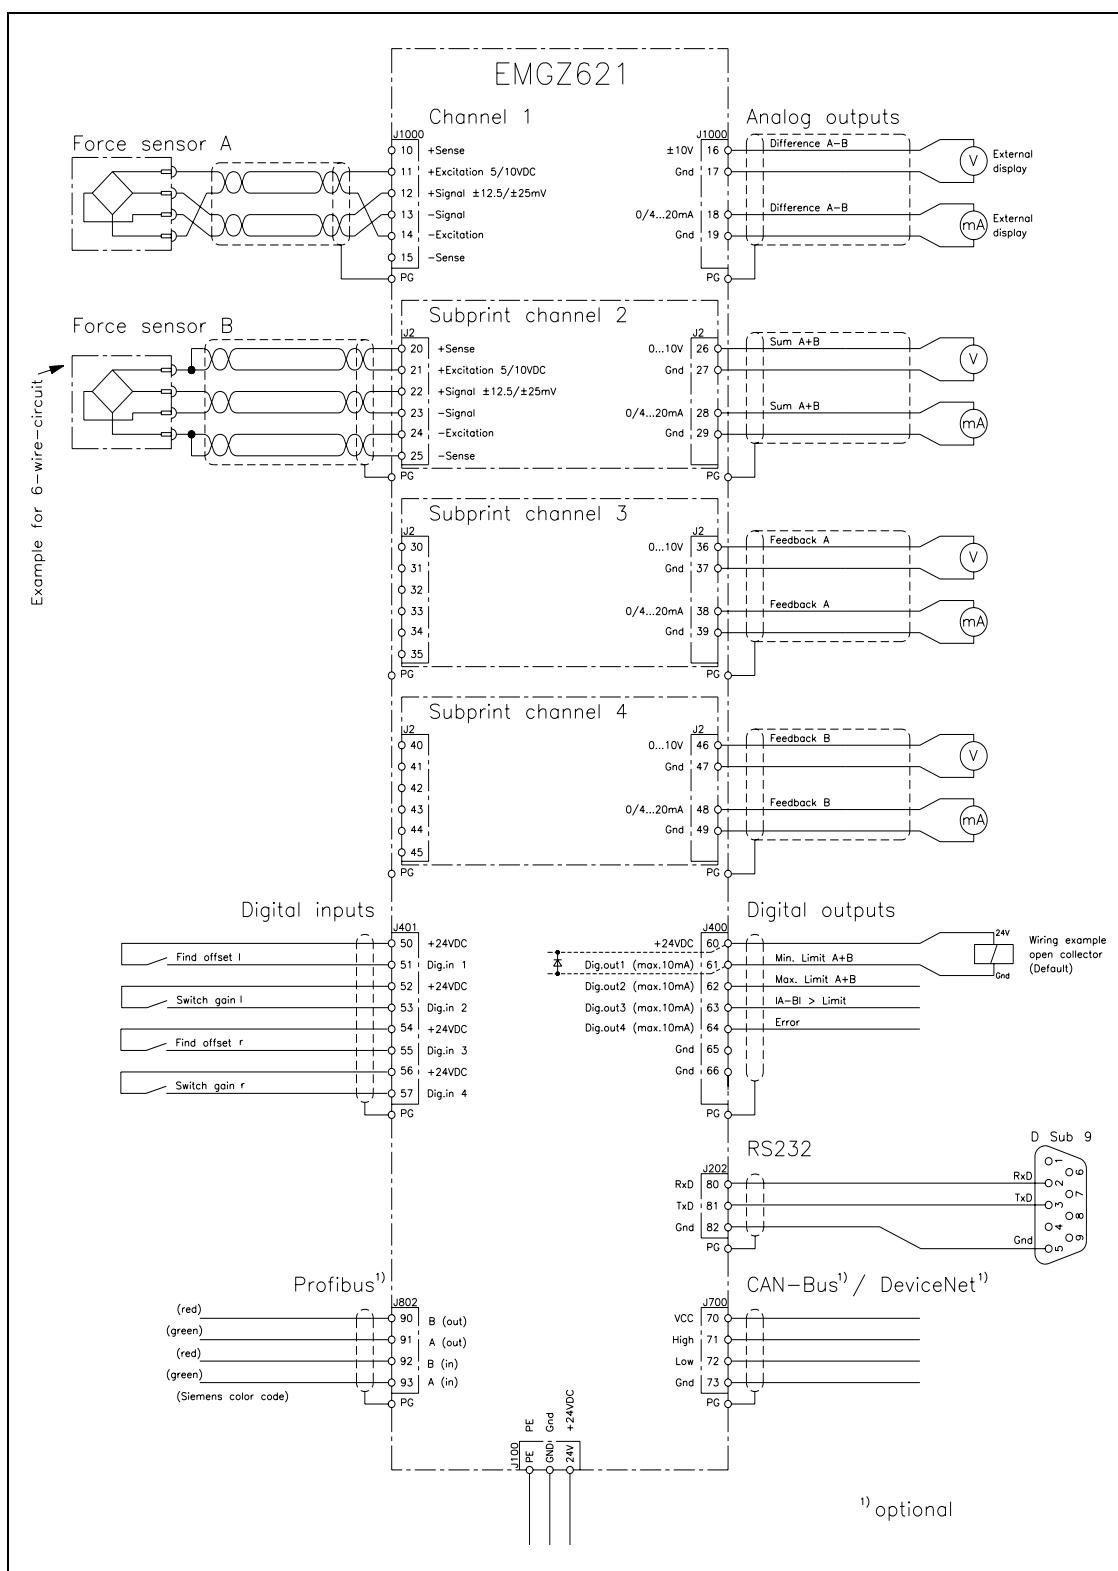

fig. 6: Wiring diagram EMGZ621A
The housing can be mounted in a control cabinet or directly beside the machine. All connections are led into the housing through glands and are connected to the plug-in screw terminals according to the wiring diagram (fig. 6)
Wiring to the terminals of the electronic unit is done according to the wiring diagram (fig. 6). If two force sensors are used per measuring point, the cables are wired parallel (ref. to wiring diagram, channel 1). If wiring is made using 6 wire circuit (ref. to wiring diagram, channel 2) the solder bridges must be modified (ref. to „8.2 Configuring the electronic unit“).
- Connect both force sensors (A and B) (ref. to wiring diagram, fig. 6).
Tapping of the limit switches is done according to the wiring diagram (fig. 6).
Wiring of the dig. inputs is done according to the wiring diagram (fig. 6).